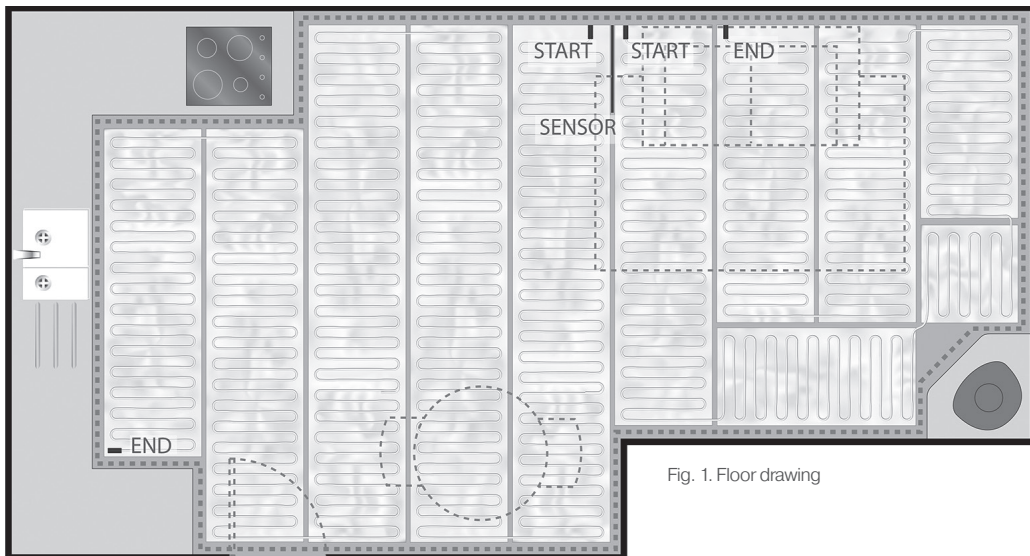
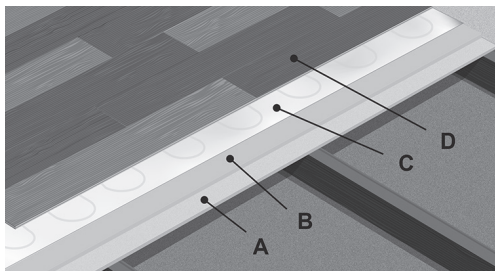

Fig. 1. Floor drawing
Fig. 2. Floor build up
When planning the underfloor heating layout (Fig. 1), there are guidelines that must be followed to perform a correct installation. Below are the guidelines to be met when planning the installation and drawing of the room (see Fig. 1 – heated area demarcated by dashed line).
You must determine the connection point of the thermostat and location of floor sensor and include it in the drawing (see Fig. 1 as example).
1. Make your own drawing of the room, when planning the installation (Fig. 1). This is necessary to install the heating mat correct and to document the installation. A typical floor build up when installing the Alumat (Fig. 2).